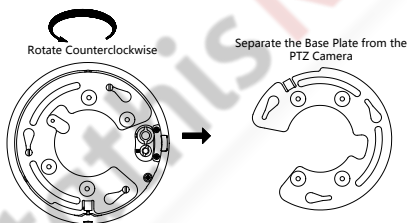

Figure 2-55 Separate the Base Plate from the PTZ camera
1. Rotate the base plate counterclockwise to separate it from the PTZ camera, as shown in Figure 2-55.